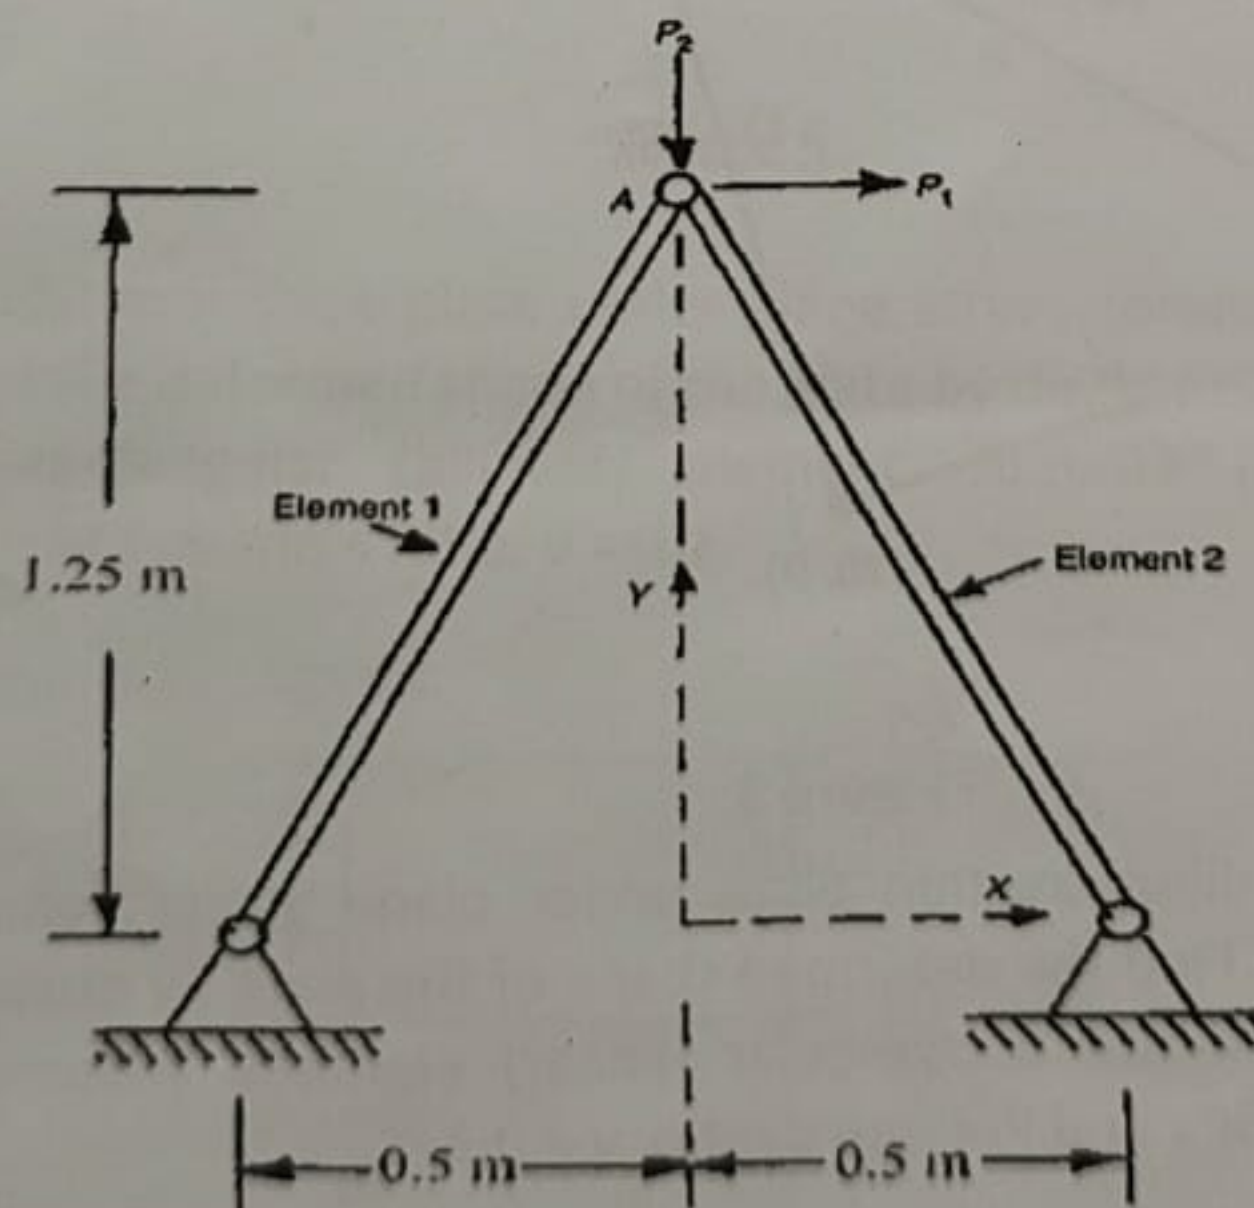

Figure 1
4. Consider the two-bar truss shown in Figure 1. The loads acting at node A are [12]